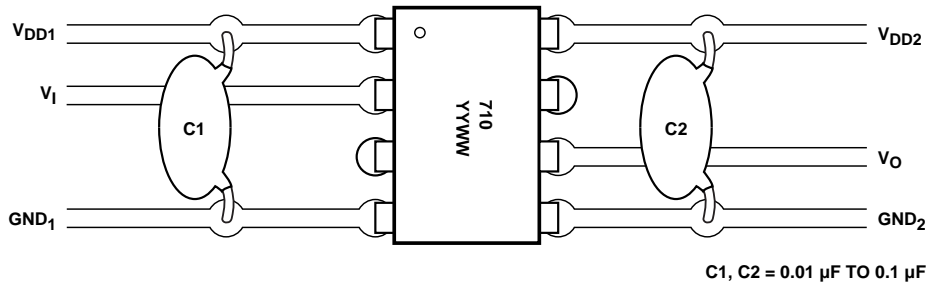

Figure 12. Recommended Printed Circuit Board Layout.
0.1 μF . For each capacitor, the total lead length between both ends of the capacitor and the power-supply pins should not exceed 20 mm. Figure 12 illustrates the recommended printed circuit board layout for the HCPL-0710.